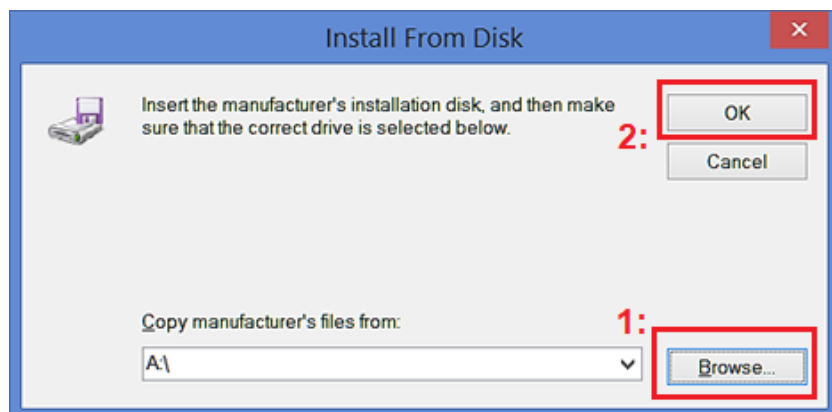
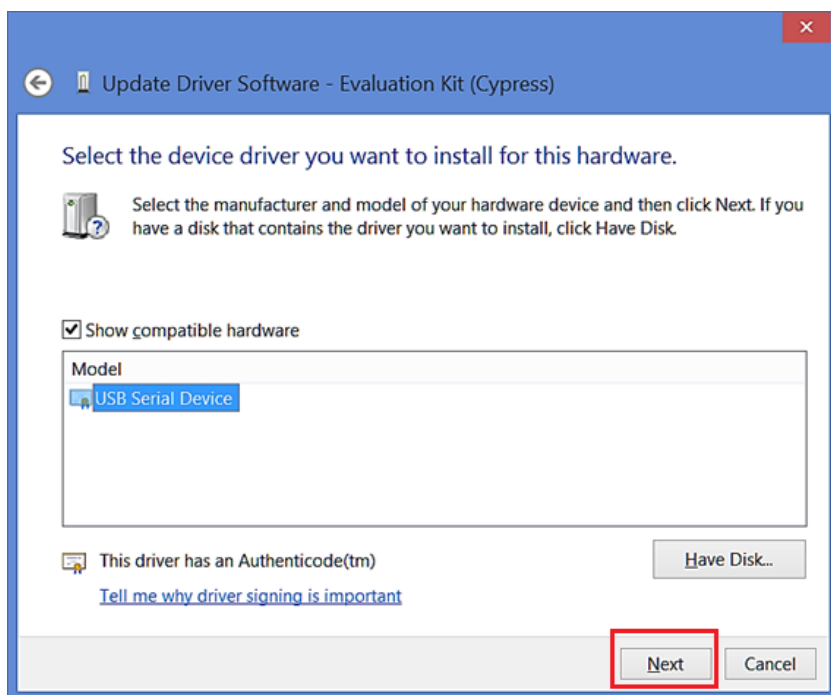

Figure 93. Update Driver Software - 5
Figure 94. Update Driver Software – 6
8. The installer should install the required files. If this kind of a pop-up window (Figure 93) appears, please proceed forward by selecting "OK". You will be returned to an older pop-up window where you should select "Next" (Figure 94).